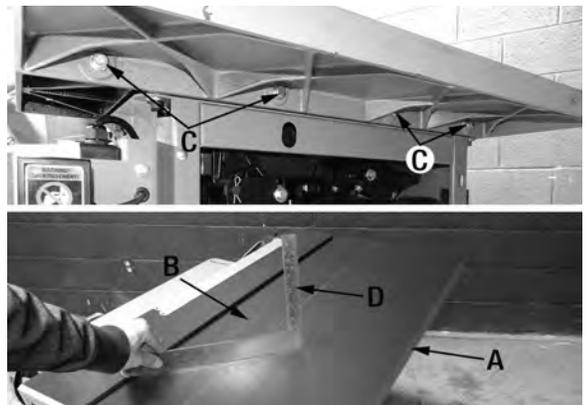

FIGURE 5
1. Install the extension table (A) Fig.5 to the right side of the main table (B) using 4 large hex. bolts, spring washers and washers (C). To allow adjustment, do not fully tighten the hex. bolts. Align the front edge of the extension table with the front edge of the main table.
2. Using a straight edge (D) Fig.5, level the extension table to the table surface as shown in Fig.5. Verify the adjustments, once the extension table is flush with the front and top of the main table, tighten all the 4 hex. bolts.